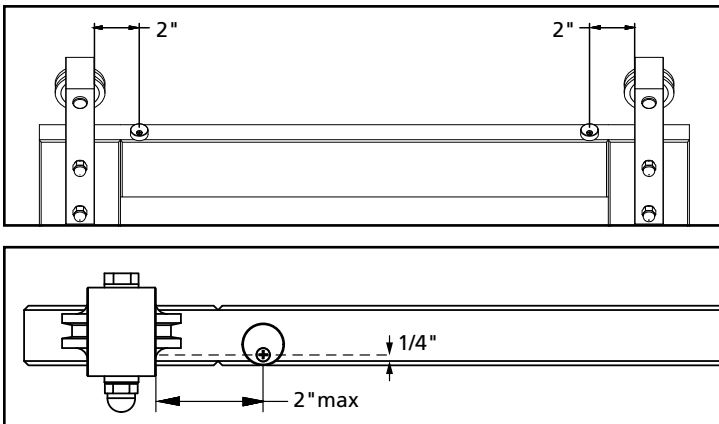

Figure 13. Installing Anti-Jump Disks with Bent Hangers
1. Position the center of the disks as seen in Figure 13.
4. Secure with (2) #8 X 3/4" wood screws (keep anti-jump disk loose enough for future rotation; to be tightened in later steps).